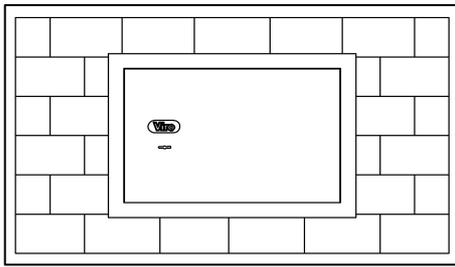

Fig. 1
- Optimal Depth: the safe door should be perfectly aligned to the wall (see Fig. 1).
3. Fix the safe into the hole after checking the correct position i.e. door hinges are positioned on right-hand side when you face it and the installing surface is plane (see Fig. 1). **Never turn the safe upside down: in that case, Viro is not responsible for working defects of the safe.**